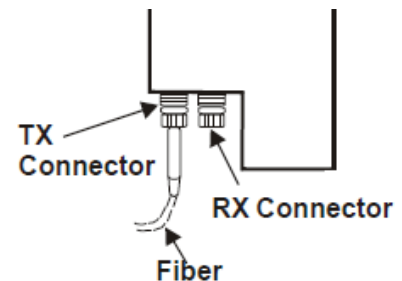

Fig 3: Fiber Connections
**1.5.2** Connect incoming fibers (or fiber patch cords) to the TeleLite fiber module connectors per Figure 3.